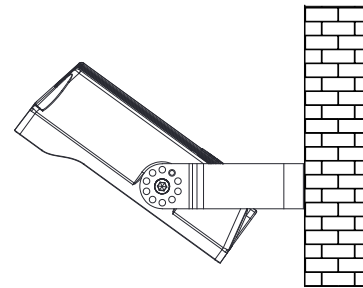

Fig 7.4
Step 3: Loosen screws, Adjust fixture angles as per actual demands and tighten screws later Figure 7.4